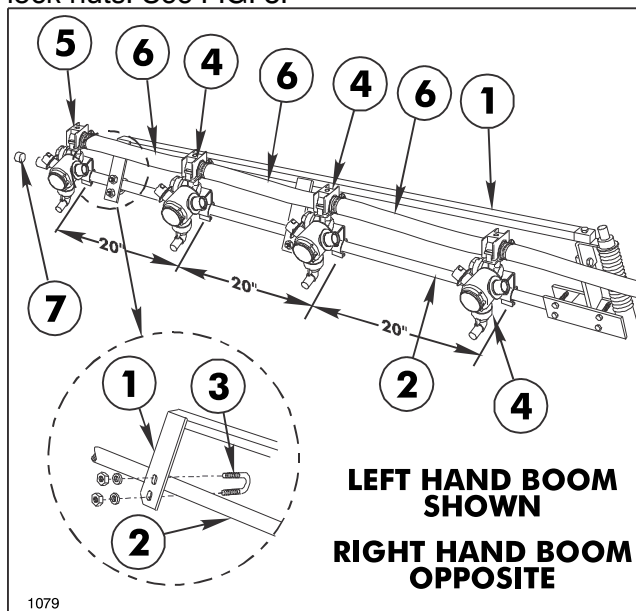

FIG. 8
11. Attach the Boom Support Assembly to the Pivot Assembly, using a 5/16" x 1-1/2" screw and hex nut. Secure the two plates of the Boom Support Assembly to the Extension Boom Pipe, using two 1/4" U-bolts, four flat washers, and four lock nuts. See FIG. 8.
14. Attach three Double Barb and one Single Barb Nozzle Assemblies on each Extension Boom Pipe. Nozzles are to be spaced on 20 inch centers. Connect the Nozzle Assemblies with the 3/4" x 19" Jumper Hoses. Secure with hose clamps(FIG.8).